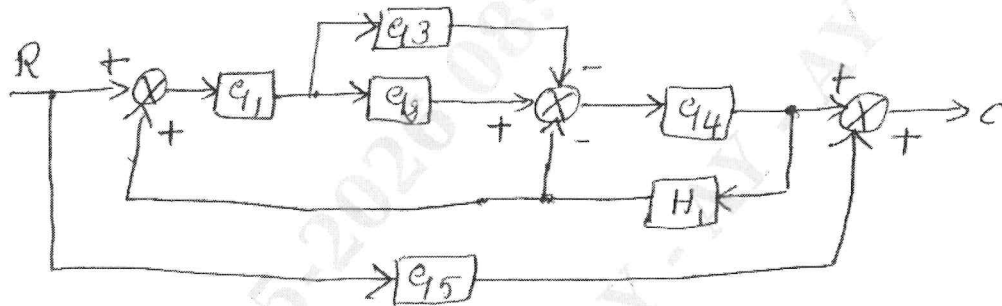

Fig. Q. 3 (a)
- 3 a. Reduce the block diagram shown in fig. Q. 3 (a) and then find $\frac{C}{R}$.